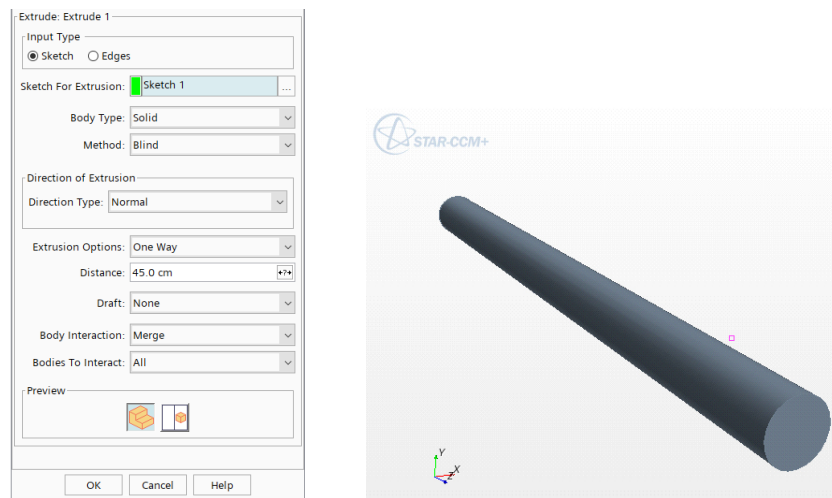

Figure 2: Dialog box for setting the extrusion distance (left). Extruded cylinder (right).
5. Right-click on **Sketch 1** node in the CAD tree, and select **Create Extrude** from the pop-up menu. A dialog box appears as shown in the left half of Figure 2.